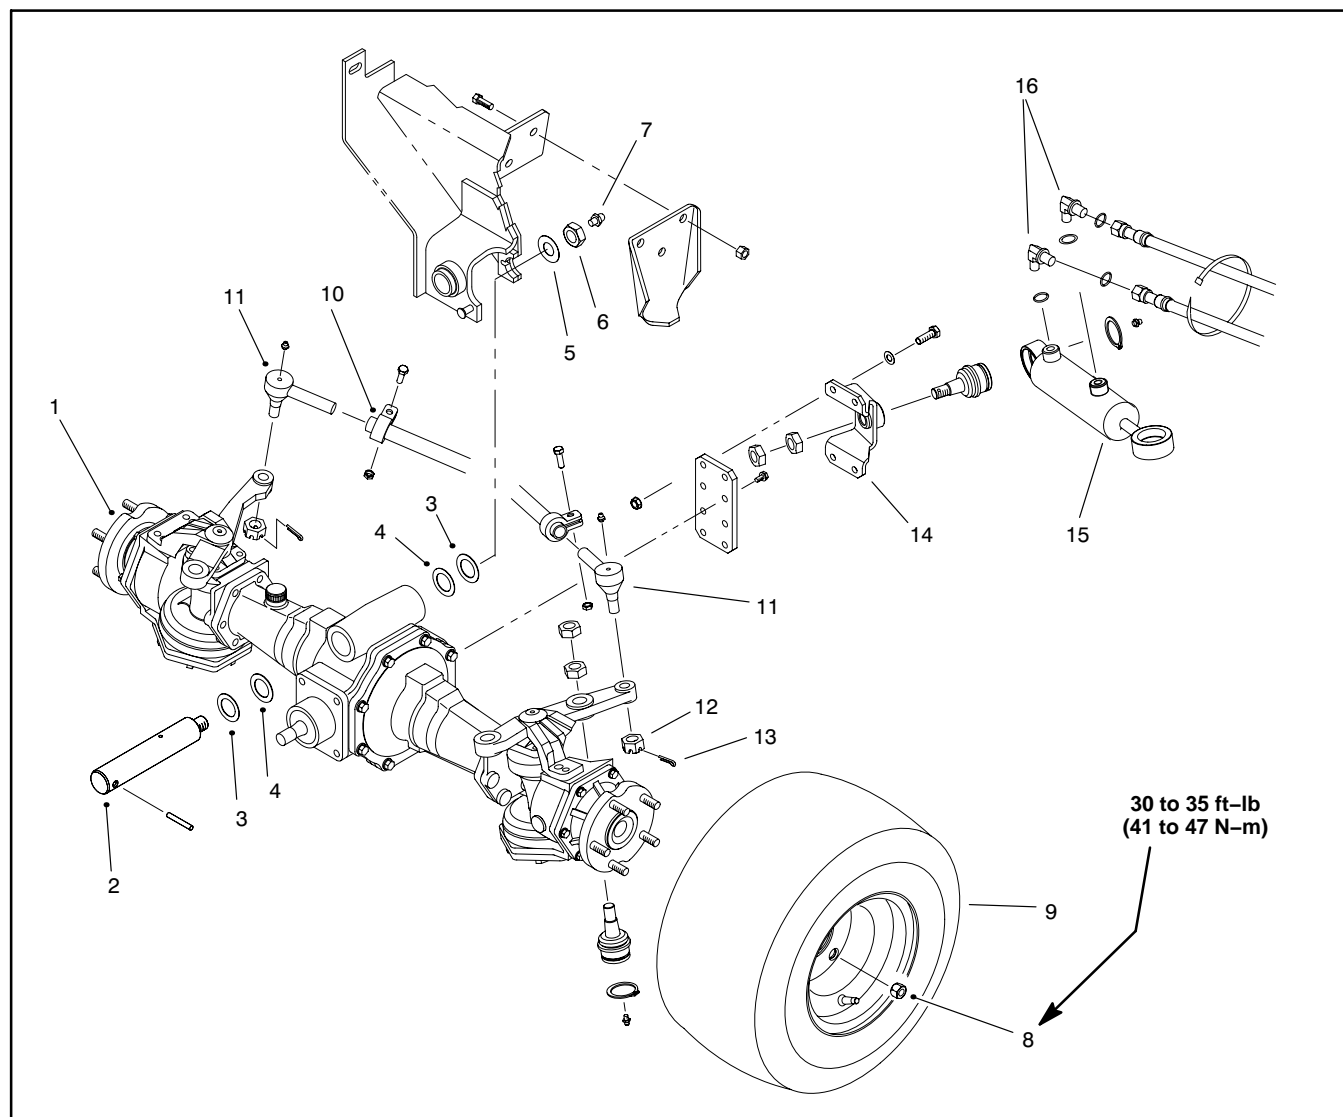

Figure 10
7. Remove the jamnut and thrust washer securing the end of the axle pivot pin to the chassis (Fig. 10).
2. Install washer(s) and axle pivot pin. Secure the axle pivot pin in place with the thrust washer and jamnut (Fig. 10).